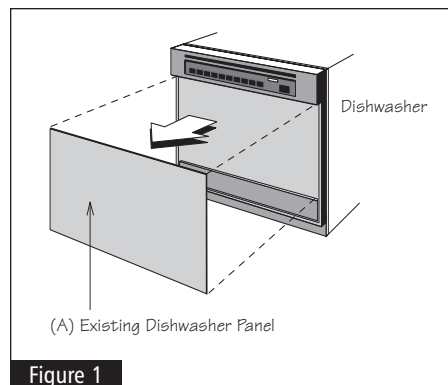

Figure 1
- 2** Remove existing dishwasher panel (A) from dishwasher front; refer to manufacturer's direction. See Figure 1.
- 3** Cut the Dishwasher Insert Panel (DIP) (B), purchased separately, to the same size as the existing factory dishwasher panel (A), removed in Step 2.